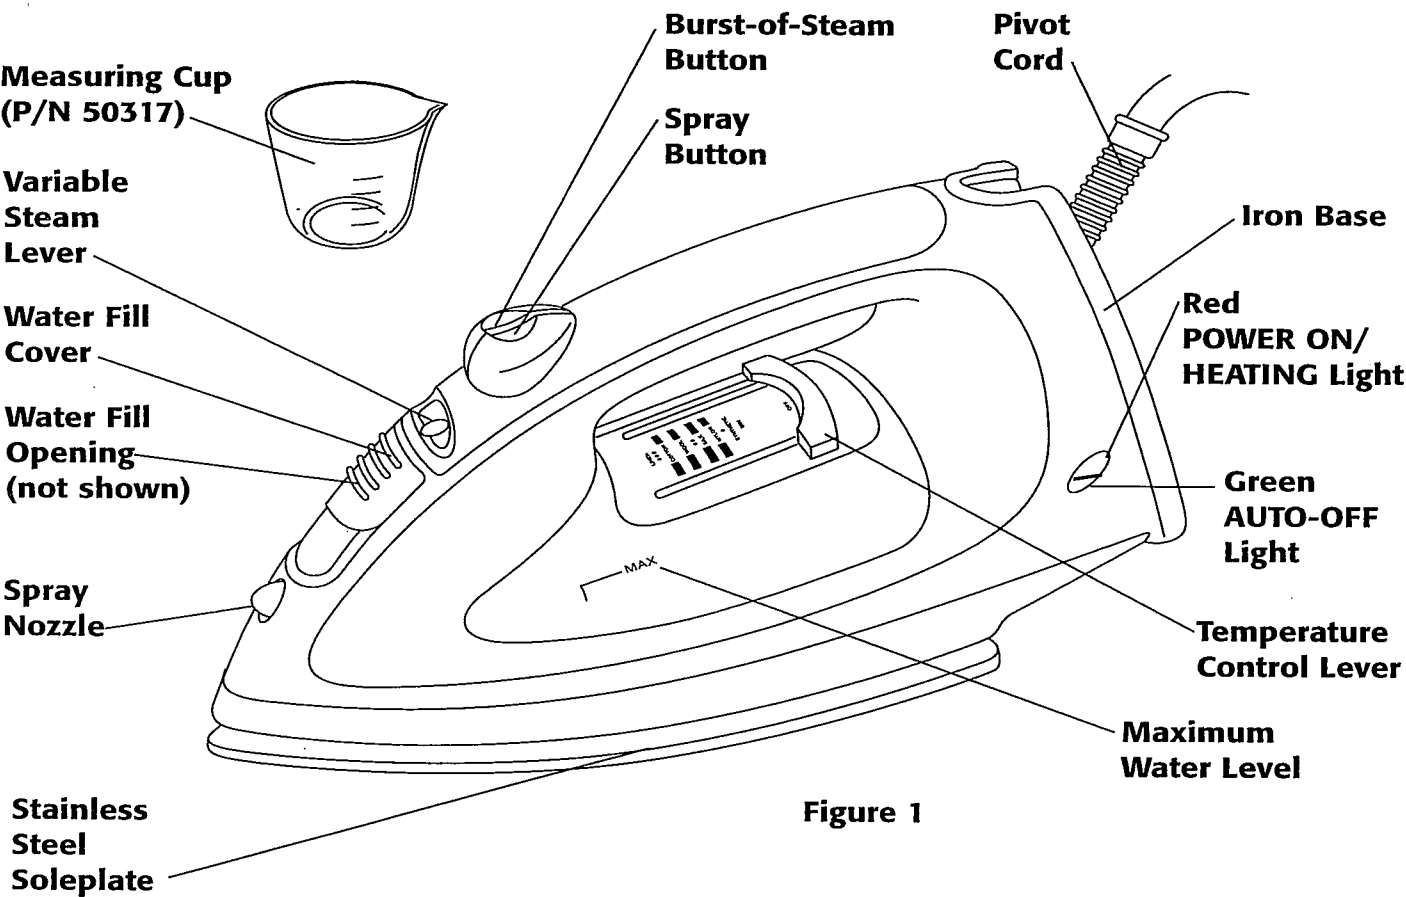

Figure 1
5. Fill to the MAX water level marked on the water tank (see Figure 1).